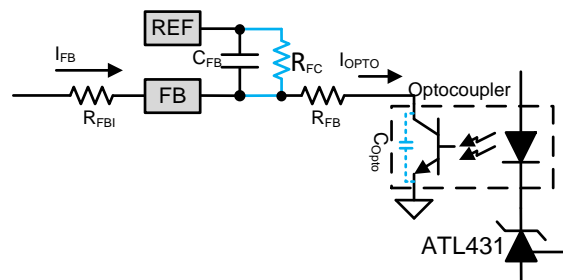

Figure 12. Mitigating Low-CTR Issue by Adding a Resistor Across C_{FB}
4. Add a resistor R_{FC} in parallel with C_{FB} to help increase the CTR of the optocoupler, as shown in Figure 12. Note that this method increases standby power.